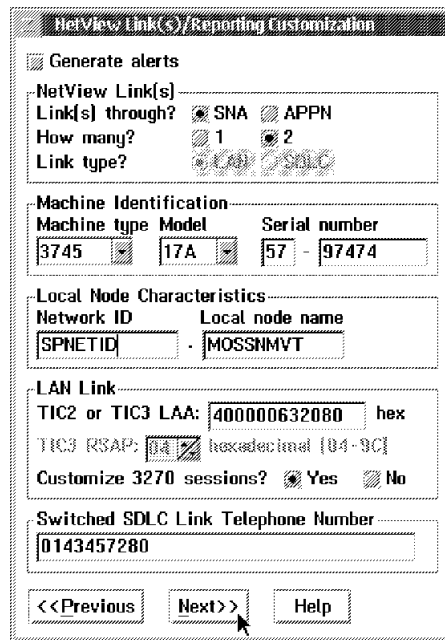

Figure 6-2. NetView Link/Reporting Customization
Local Node Network ID (Figure 6-2 on page 6-3)	Partner network ID (Step 9 on page 6-7) and Network ID (Step 10 on page 6-8)
TIC2 or TIC3 LAA (Figure 6-2 on page 6-3)	LAN Destination address (Step 9 on page 6-7)
TIC3 RSAP (Figure 6-2 on page 6-3)	Remote SAP (Step 9 on page 6-7)
**Step 5.** Record the values in the **Local Node Network ID**, **TIC2 or TIC3 LAA**, and **TIC3 RSAP** fields (see Figure 6-2 and refer to Table 6-1 on page 6-2). Then click **Next**.